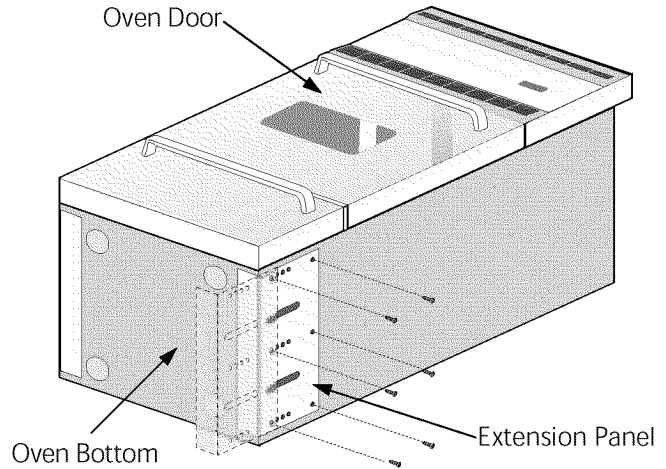

Figure 5
1. Lay oven on its back. (see figure 5).